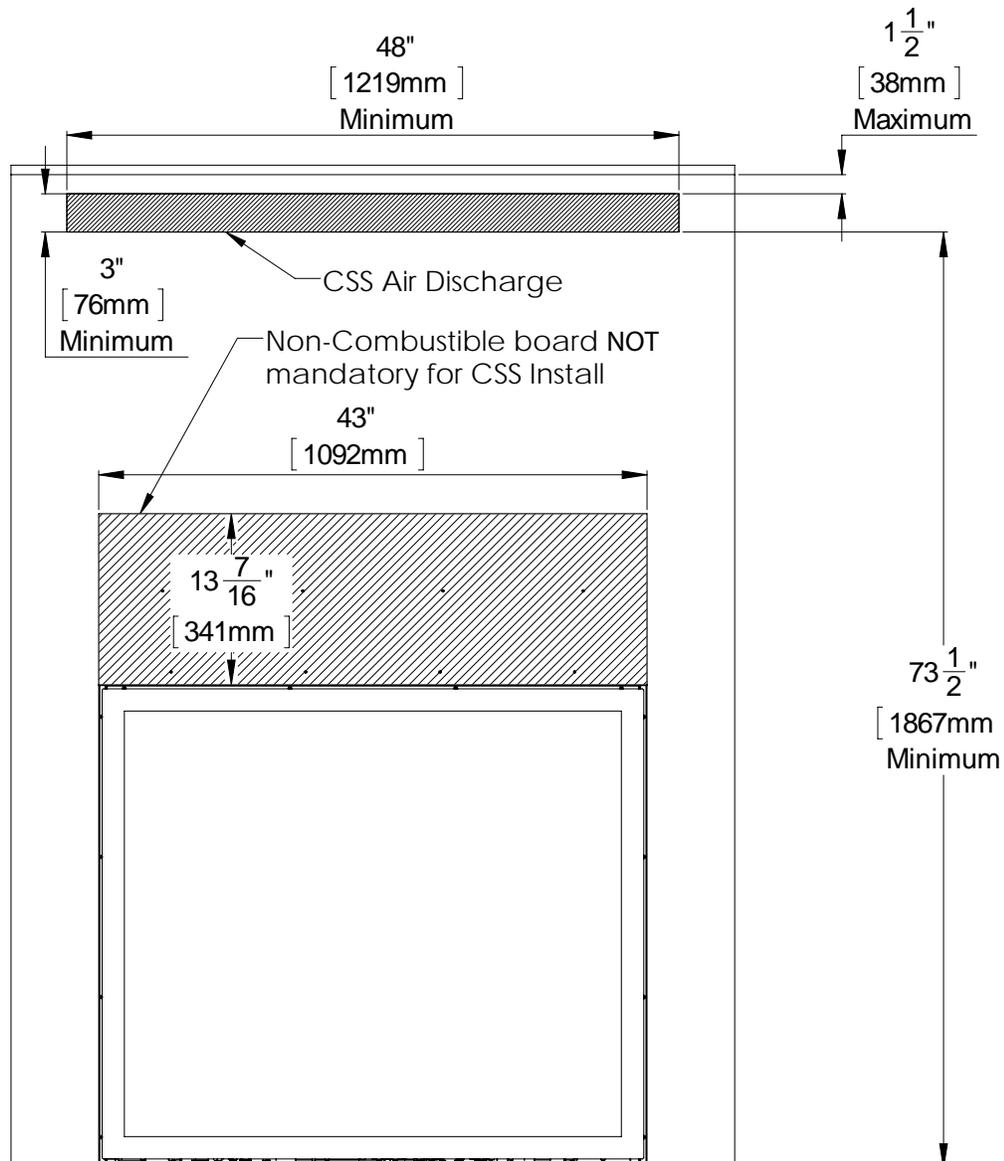

Figure 48: Framing Option 1
**Framing Option 1: Front Discharge (flush wall installations)** - Construct the framing in a way that provides a minimum 48 inch (1219mm) by 3 inch (76mm) gap at the top of the facing wall. It is essential that these dimensions are respected and not to deviate away from them when using combustible materials inside the chase (see Figure 48).